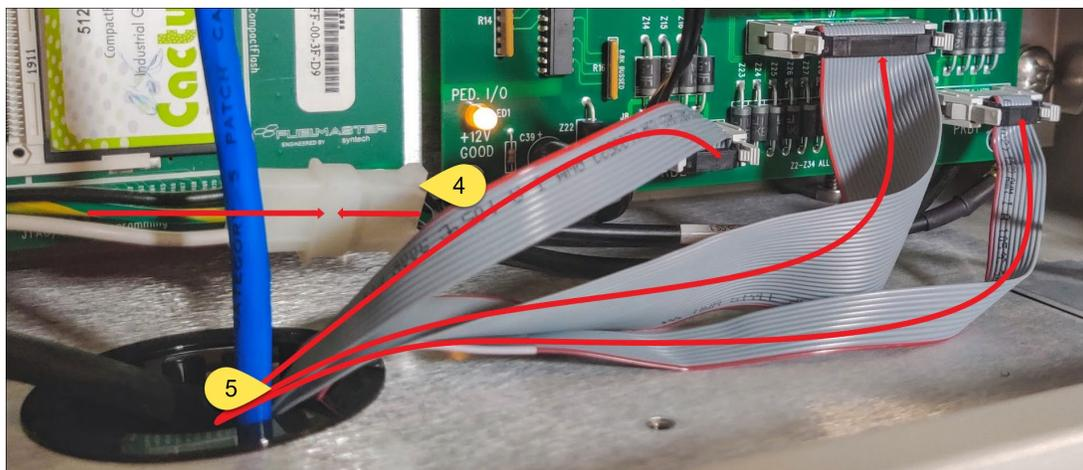

Figure 25 Reinstalling Head Connections
5. Connect the gray ribbon cables to the Sat I/O board (Figure 25). Units controlling 2-4 hoses will connect the 10-pin connector to PRB1. If controlling more, the second 10-pin connector will connect to PRB2.